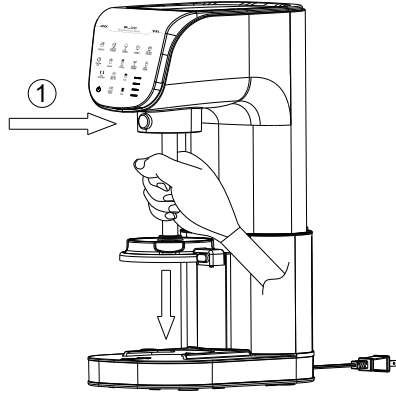

Figure 2
To remove the blending blade assembly, press and hold the unlock button on the blade base (as shown by arrow ①), then pull down on the blending blade shaft to detach it (see Figure 2).
⑦